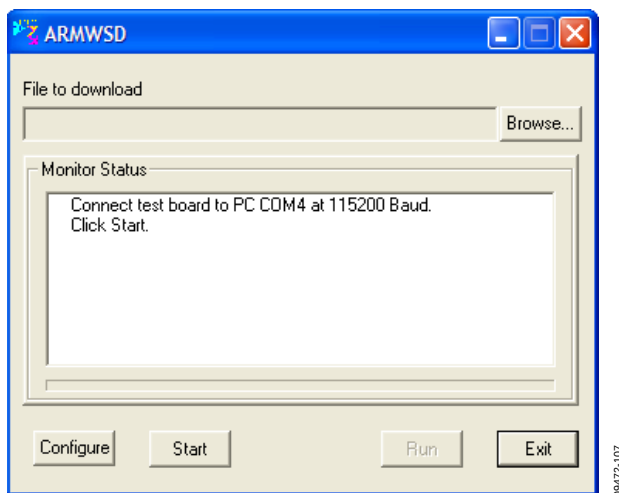

Figure 8. ISEB ARMWSD Firmware Downloader
2. Run the **ARMWSD.exe** program located in the **/Firmware Utility/** folder; it displays information about the downloader, as shown in Figure 8.
When the COM port is selected, click **OK** to accept the changes and go back to the ARMWSD box (see Figure 8). The downloader is now fully configured. Follow these steps to flash the firmware:
1. Click **Start** in the ARMWSD box (see Figure 8) to initiate the flashing process.
4. If the downloading process fails, which is indicated in the **Monitor Status** box (see Figure 8), attempt the download again by repeating Step 1 through Step 3.
5. After the download has completed successfully, click **Run** (shown in Figure 8).